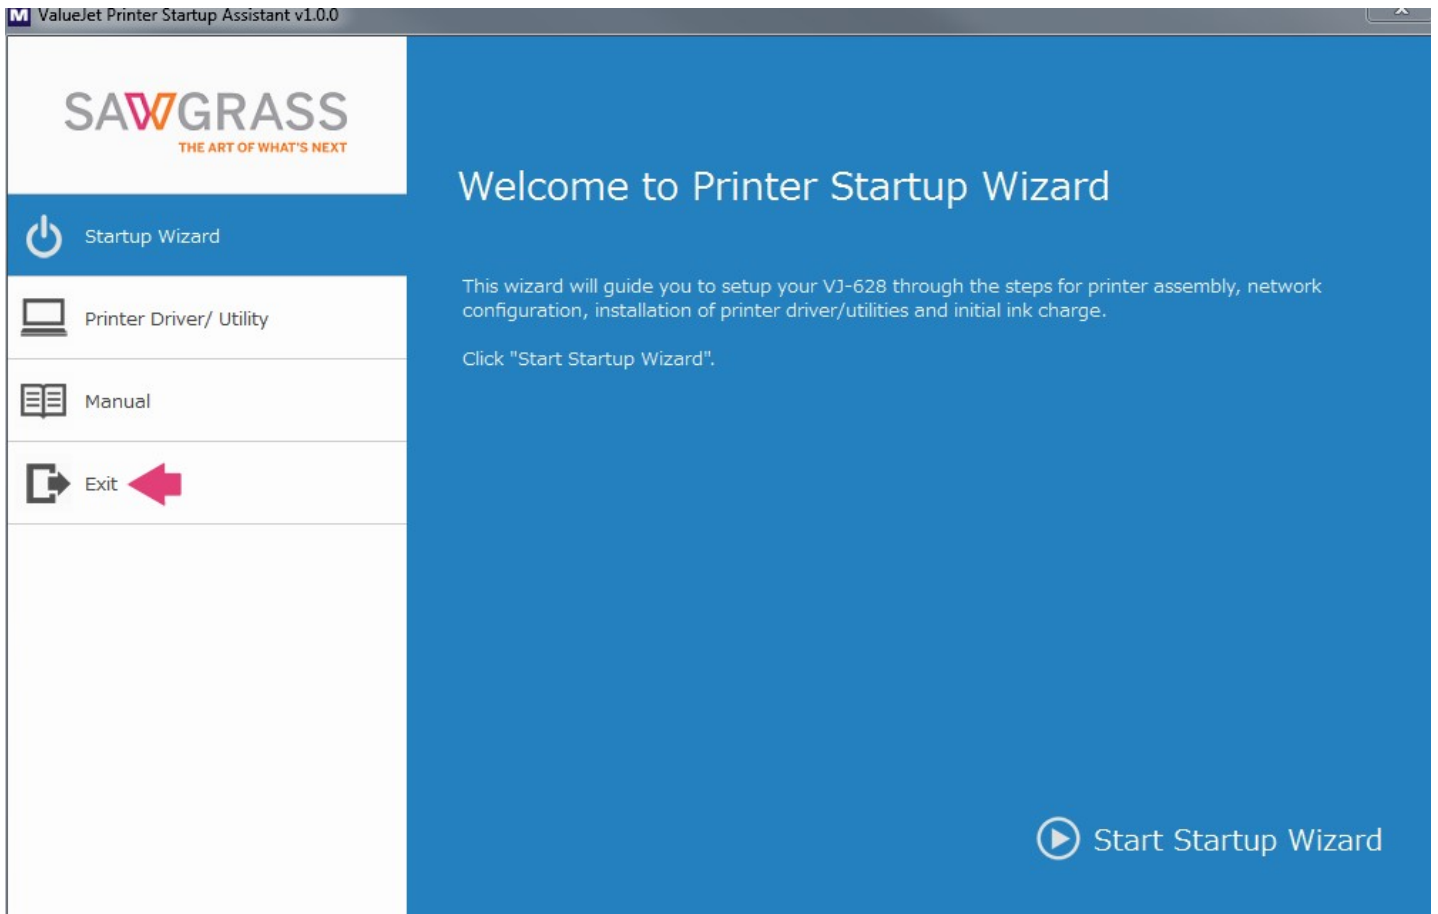

Figure 106
93. Select **Exit**. See Figure 106.